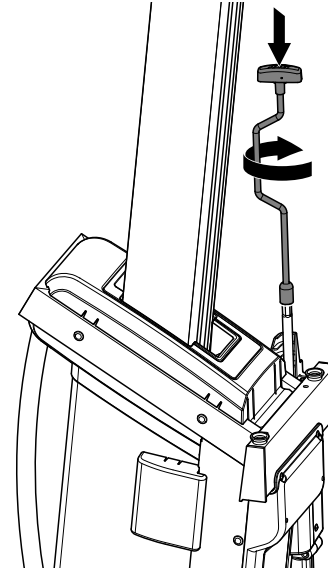

Figure 6-5. Loose rope being re-tensioned
4. Connect the manual descent handle directly to the carriage drive shaft (Figure 6-5.). Press down on crank and simultaneously rotate clockwise. You will hear a ratcheting noise and the drum will wind up the slack rope.